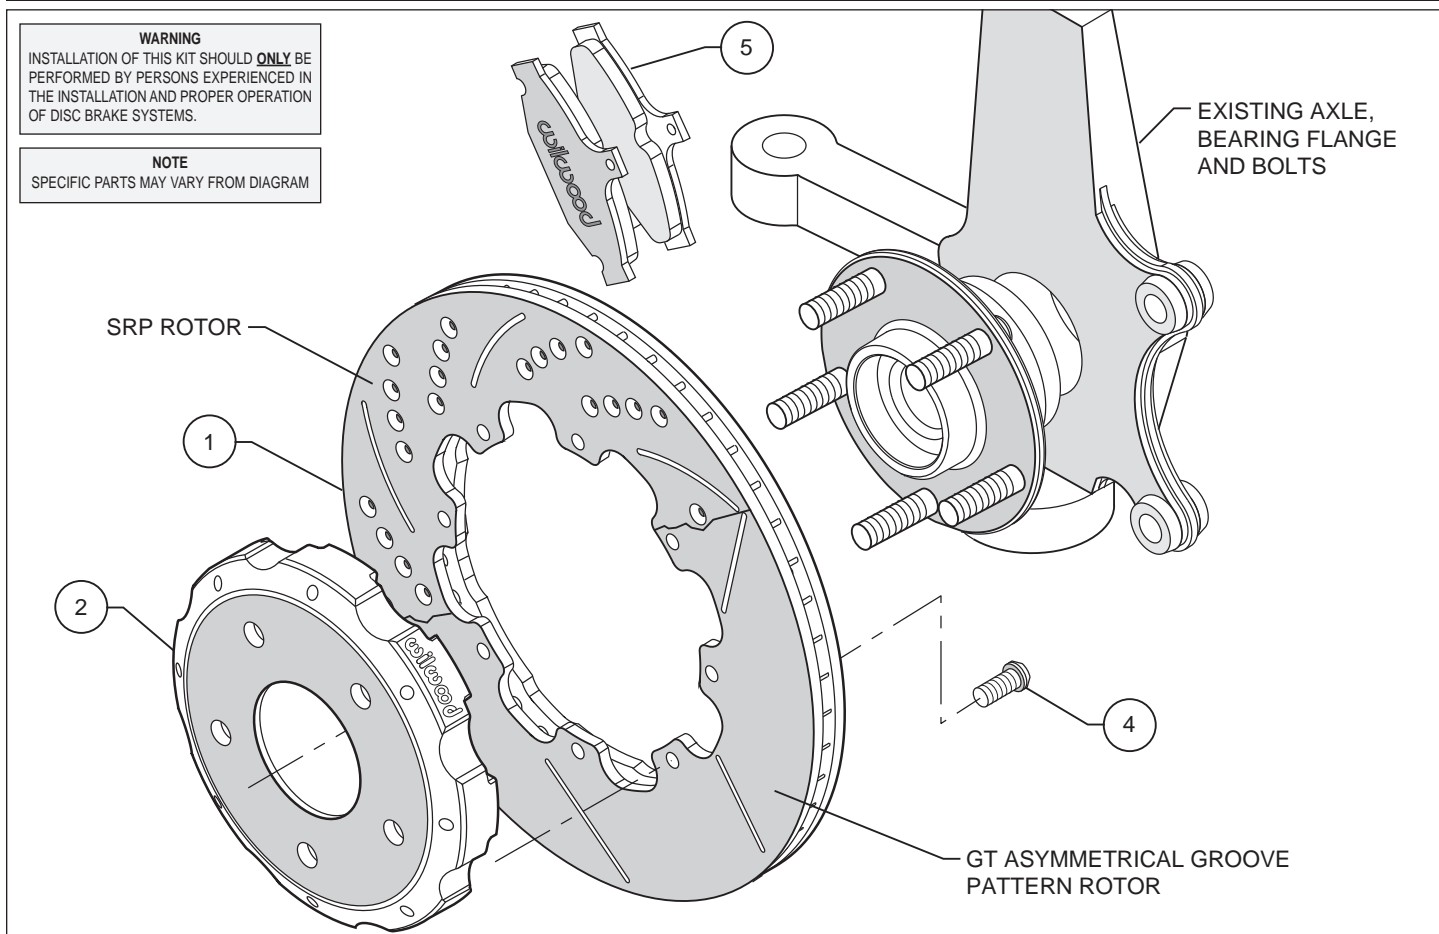

Figure 1. Typical Installation Configuration
- Assemble the rotor (1) to the hat (2) with the bolts (4) as shown in Figure 1. Using an alternating sequence, remove bolts one at a time, apply red *Loctite*® 271 to the threads, and torque to 25 ft-lb.
- Align the hole pattern on the hat (2) with the stud pattern on the axle flange. Slide the hat and rotor assembly over the wheel studs and against the axle flange face. Check to be sure the hat seats squarely against the axle flange face. The axle flange area must be free from any rust, debris, casting burrs, machining irregularities, etc. Use three lug nuts to hold the rotor and hat in place against the axle flange.
- Install new Wilwood brake pads (5) into stock caliper bracket.
- Install Wilwood's stainless steel braided flexline hose kit (3), see below. **NOTE:** OEM rubber brake hoses generally cannot be adapted to Wilwood calipers. The caliper inlet fitting is a 1/8-27 NPT. The preferred method is to use steel adapter fittings at the caliper, either straight, 45 or 90 degree and enough steel braided line to allow for full suspension travel and turning radius, lock to lock. **Carefully route lines to prevent contact with moving suspension, brake or wheel components.** Wilwood hose kits are designed for use in many different vehicle applications and it is the installer's responsibility to properly route and ensure adequate clearance and retention for brake hose components.